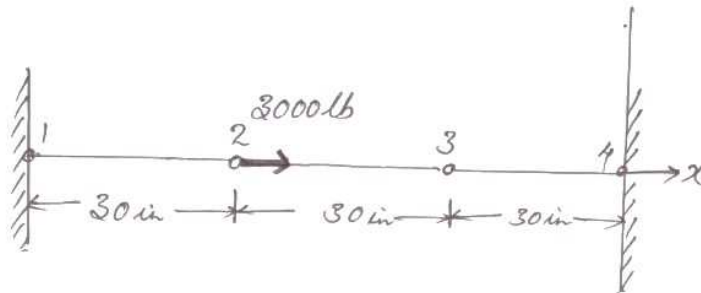

Figure 2:
12. For the three bar assemblage shown in figure 2. Determine (a) global stiffness matrix (b) Displacements at node 1 & 4 (c) The reactions of nodes 1 & 4 A force of 3000 lb is applied in the X- Direction at node 2. The length of each element is 30 inch. $E = 30 \times 10^6 \text{ psi}$ and $A = 1 \text{ inch}^2$ for element 1 & 2 and $E = 15 \times 10^6 \text{ psi}$ and $A = 2 \text{ inch}^2$ for element 3. Nodes 1 & 4 are fixed. (6)